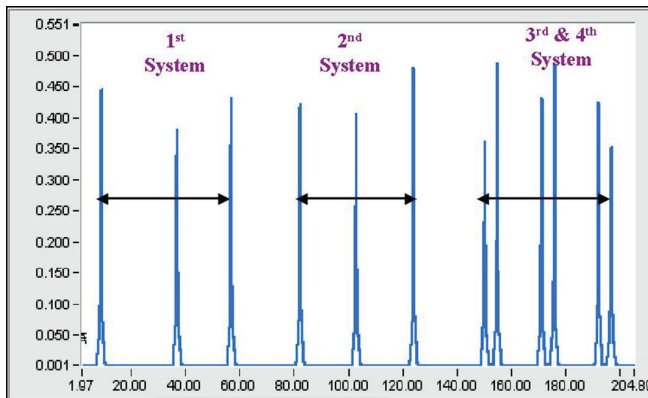

Figure 5.
3. **System Uniformity:** Profilers allow users to easily check the uniformity of their system across its width. Figure 5 shows a 48" (122 cm) wide system with four lamps in a single/single/double lamp pattern. Each lamp was measured on the left, middle and right side, and the profile shows substantial variation along the width of the source that could lead to inconsistent curing. Troubleshooting to improve the uniformity should include checking the position of the lamp relative to the reflector, lamp bowing, uneven cooling/airflow and/or incorrect reassembly after maintenance. A quick check after maintenance will allow the user to quickly identify the improvements.